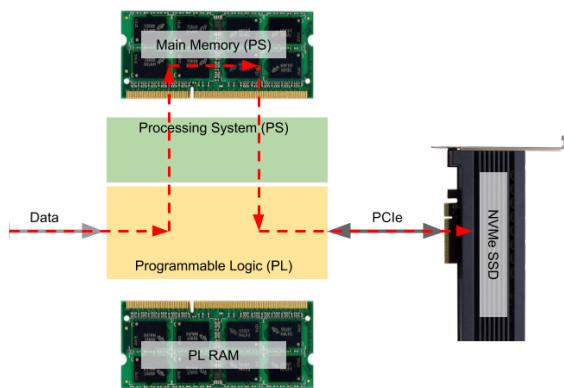

Fig. 1: Data flows through Main Memory
Fig. 1 shows an FPGA-based architecture where ingress data is to be recorded using an NVMe SSD and where this NVMe SSD is connected to the Programmable Logic (PL) using High-Speed Serial IO for PCIe. Basically, incoming data enters the PL on the left, suitable for data-in-motion processing of that data inside the FPGA, before this data gets written into the NVMe SSD.
The commonly used dataflow is also shown in Fig. 1. The NVMe protocol is handled in software by an Operating System - typically Linux - which runs on the Processing System (PS) a.k.a. the CPU. The NVMe and PCIe software routines use Direct Memory Access (DMA) to write the data from Main Memory into the NVMe SSD and, therefore, there is a previous DMA required to transfer the data from the PL into Main Memory.
Obviously, in Fig. 1 the data takes a “detour” and this adds traffic to the memory bus of the PS which in a typical system likely becomes the system’s performance bottleneck.